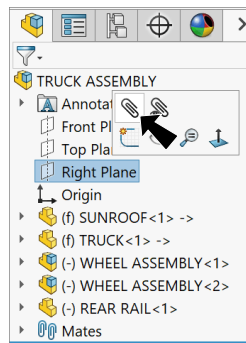

Fig. 15
Step 1. Click **Right Plane**  in the Feature Manager and **Mate**  on the context toolbar, **Fig. 15**.